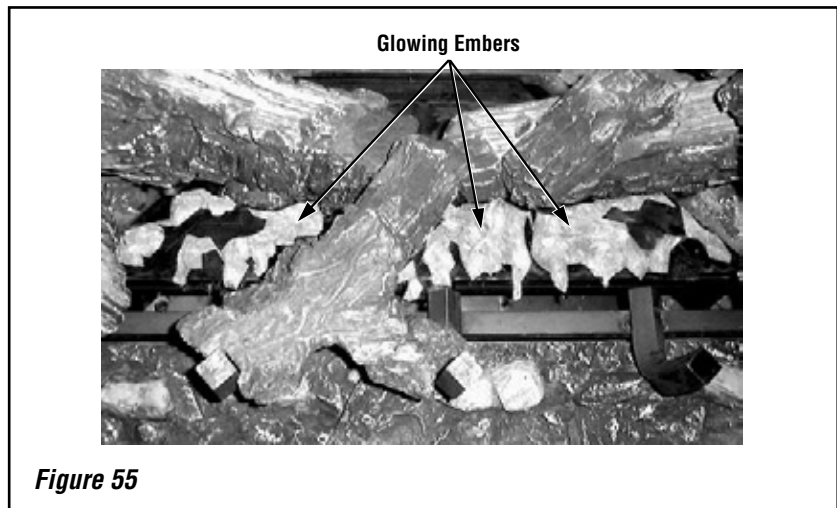

Figure 55
Step 3. Separate the Glowing Ember (Rockwool) into pieces about the size of a quarter (**Figure 54**). Keep the pieces fluffed up, not matted. Distribute these pieces over the front surface of the burner, as shown in **Figure 55**. Do not use more than is necessary. When properly positioned, the Glowing Embers will cover approximately 65% of the front burner and with no appreciable gaps or openings. Ensure that the main burner ports remain uncovered by the ember material.